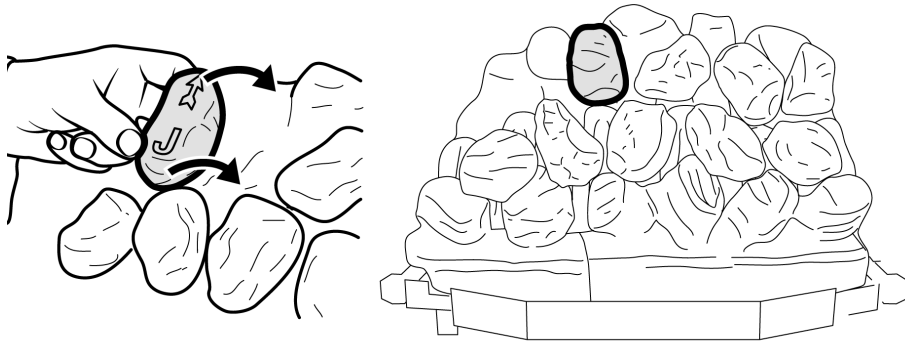

Figure 15. Third row "Coal J"
**19.** Hold coal 'J' upright with the arrow pointing to the top. Locate coal 'J' as shown in figure 15.